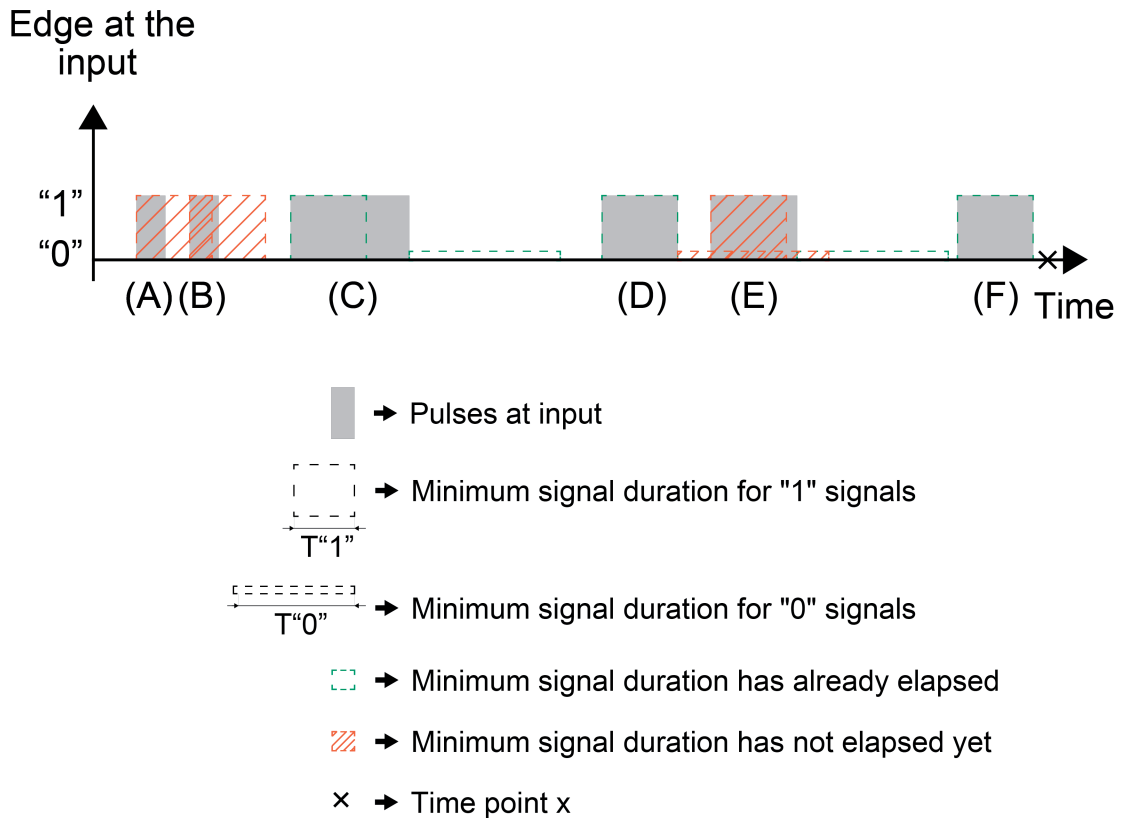

Figure 15: Example for setting the minimum signal duration
**Example for setting the minimum signal duration (Figure 15):**